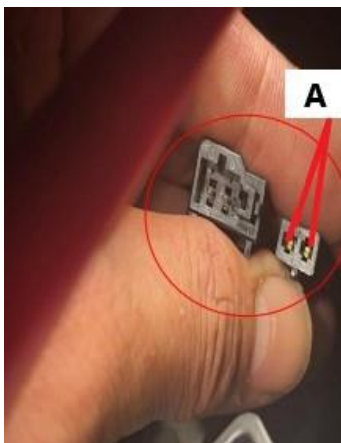

Figure 6
5) Referring to Figure 6 - Disconnect the E25 connection (circle)